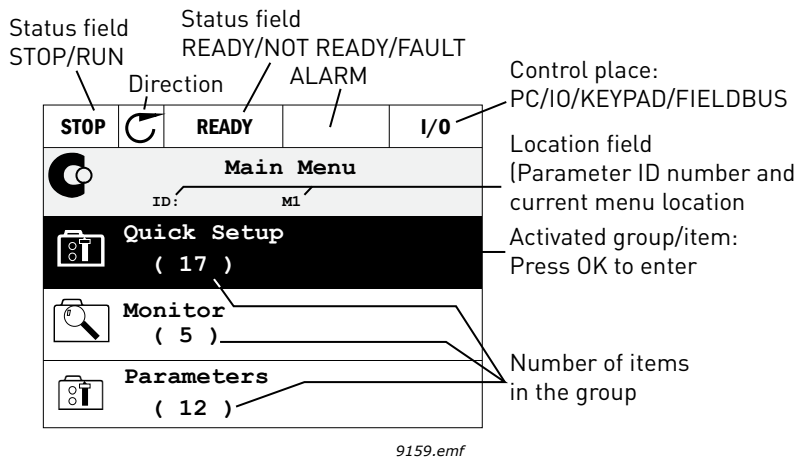

Figure 11. Main menu
**The *Location field* indicates your current location. The *Status field* gives information about the present status of the drive.** See Figure 11.